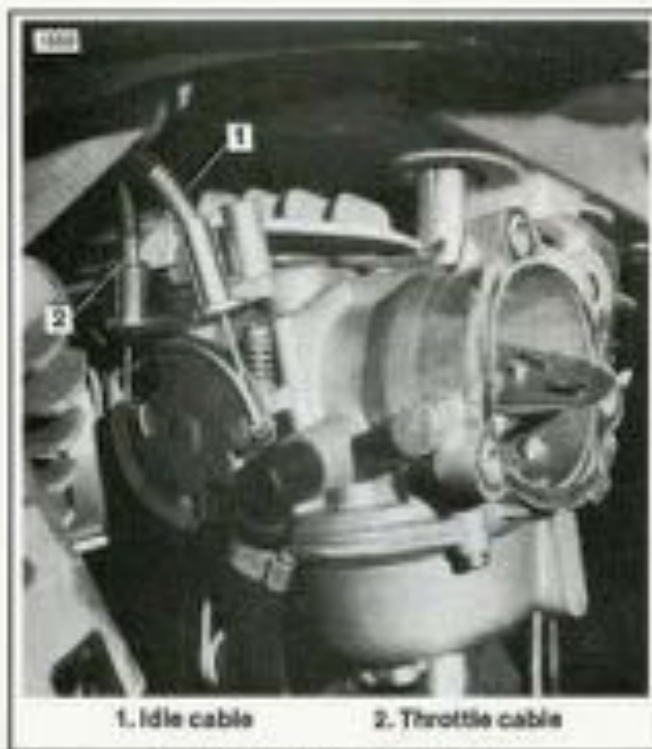

Figure 2-91. Cable installation
9. See Figure 2-91. Install the idle cable (1) and spring into the longer of the two support sleeves on the carburetor. The idle cable has a 1/4"-20 threaded adjuster at the throttle end.